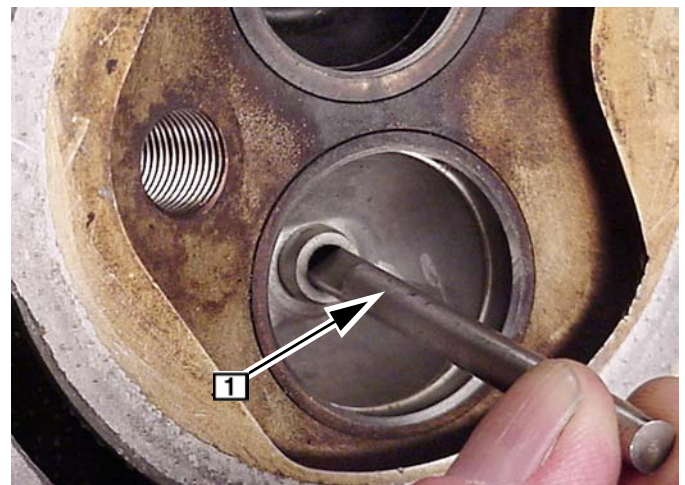

Fig. 83
2. Check valve guide bushings for wear using reject gauge, Tool #19382 **1**, Fig. 83.